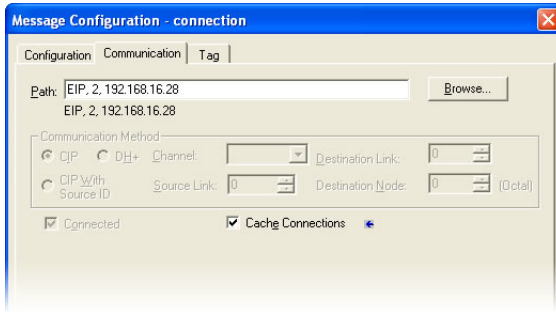

**Figure 101: Selecting the Destination Element**
- iv) For the Destination Element, either directly type "data\_array[50]", or select element #50 in the data\_array tag via the drop-down box (refer to Figure 101). The destination could be any offset in the data\_array tag, as long as the offset plus the Number Of Elements (21) does not exceed the tag's defined size (73).